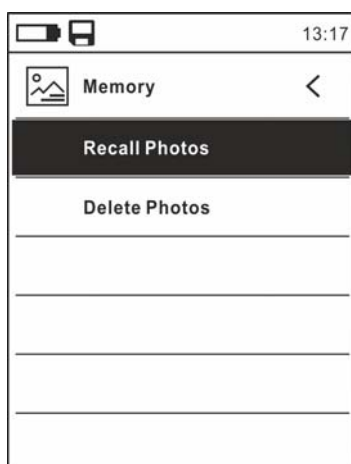

Fig. 15: Menu Memory
31. Use the arrow keys ▲ or ▼ and keys ≡ or ► to select option “Delete Photos” (see Fig. 15). The following screen appears on the display: